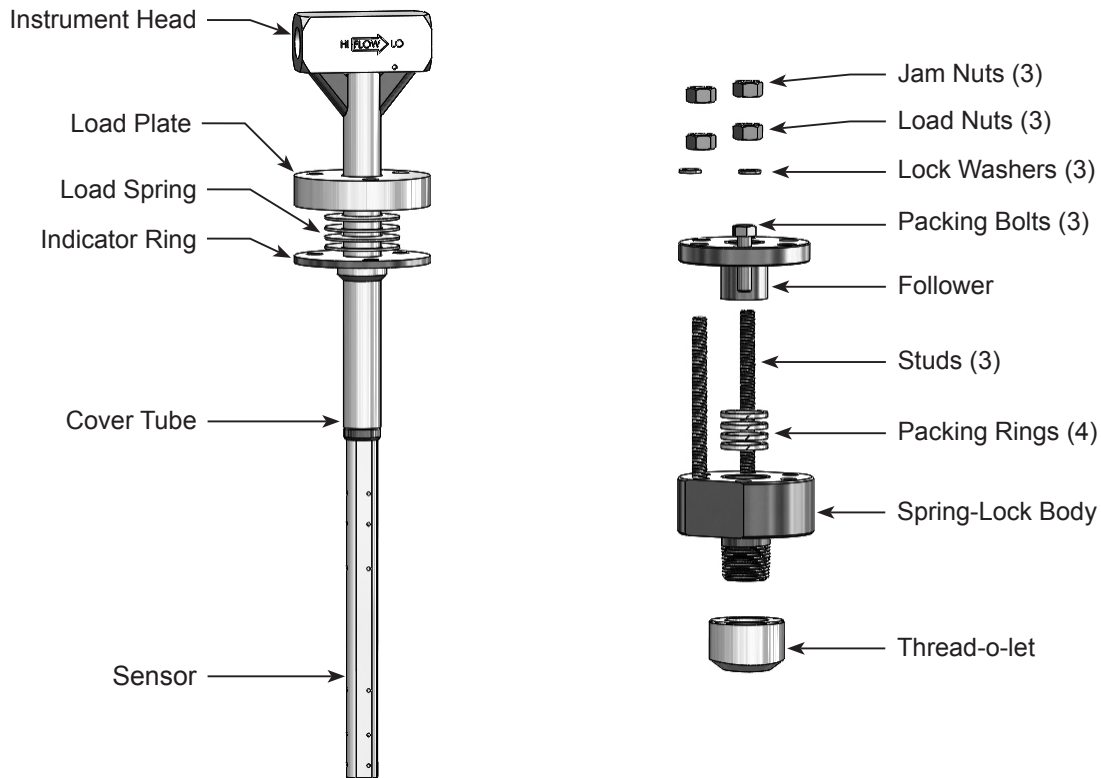

Figure 2. Verabar® Model V150 Assembly
- With the follower and packing rings already in place (factory assembled), loosely insert the sensor into the Spring-Lock body (see Figure 2). Thread the Spring-Lock body into the thread-o-let (hand tight), then insert the complete assembly into the pipe. This will assure proper alignment of the thread-o-let to the hole already drilled in the pipe.